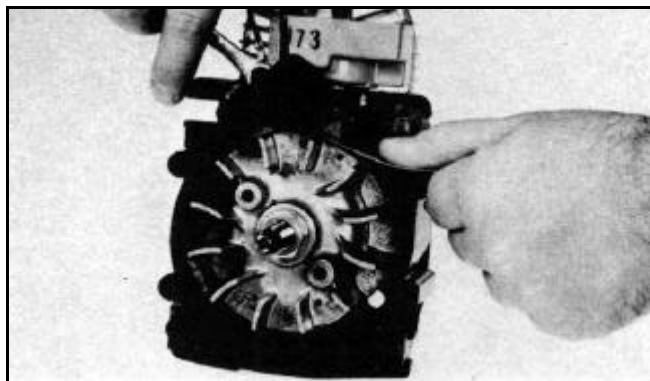

Figure 226 0406-043
6. Remove the ignition module. Inspect the module and wire insulation for damage. Replace as needed (Figure 226).